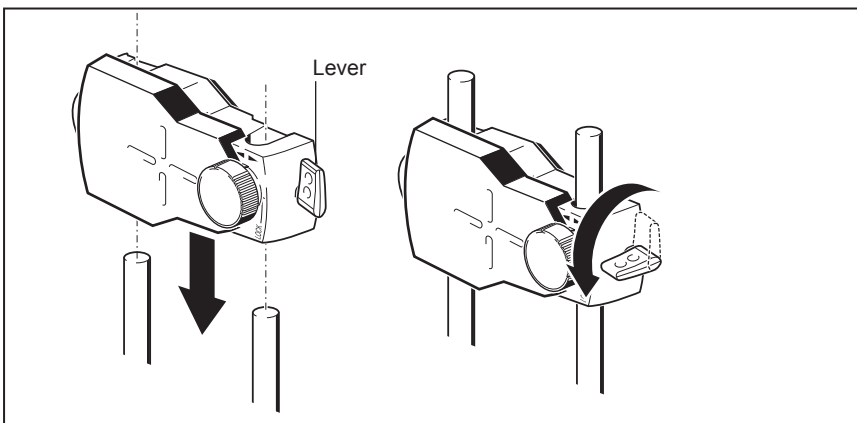

Figure 7-3. Mounting and fastening prism
The yellow knob on the front of the prism allows you to adjust the horizontal angle of the reflected laser beam. Before you mount the prism make sure that this knob is centered to allow for maximum adjustment range later on. The bottom of the knob should be flush with the arrow on the prism housing (refer to Figure 7-3).
6. Flip up the yellow quick-release lever on the side of the prism housing, then slide the prism onto the right-hand bracket posts. Return the lever to its horizontal position to secure the prism on the posts (see Figure 7-3).